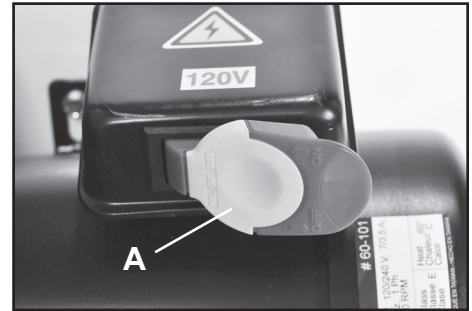

FIG. 12
The On/Off Locking Switch has a center Safety Key (A) that can be used to prevent unauthorized use of the dust collector. The switch needs to have the center key inserted before the machine can be used. Figure 12.